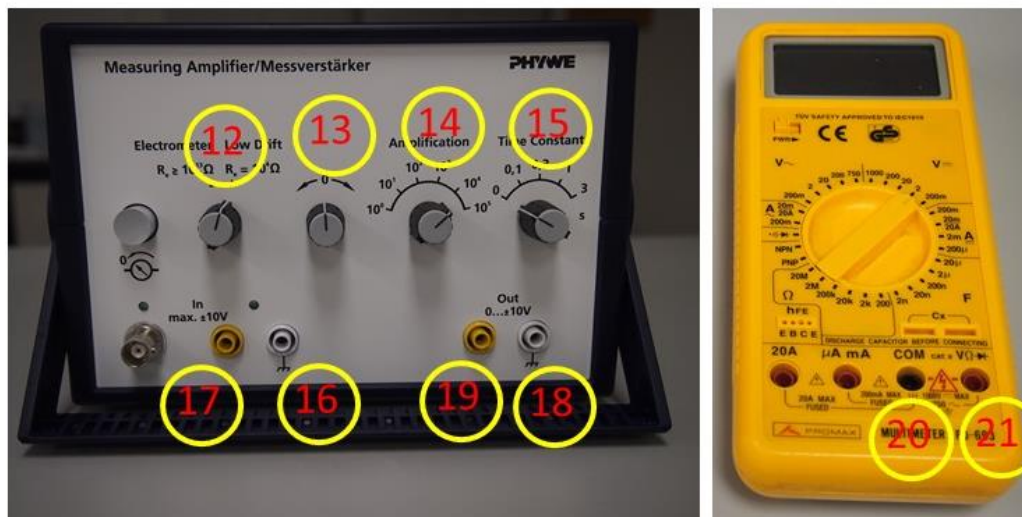

Figure 9. Experimental set-up. Power supply, amperimeter and copper rod
- 5.2.2 Connect the point (10) of the copper rod to the control (16) of the amplifier (Figure 9). Subsequently connect the point (11) of the rod to the control (17) of the amplifier. In this way the amplifier is connected in parallel to the copper rod for measuring the potential difference between two points of the bar. Let us point out that the distance between the points (10) and (11) of the copper rod is  $d = 0.315$  m.